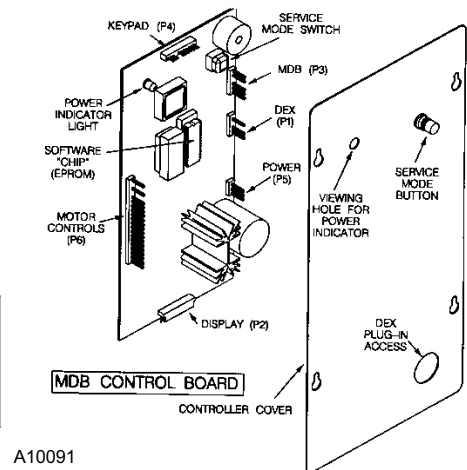

FIGURE 18. Control Board
1. Press the red Service Mode Button on the top right side of the control board cover. See Figure 18. The control board is in the upper right side of the cabinet.